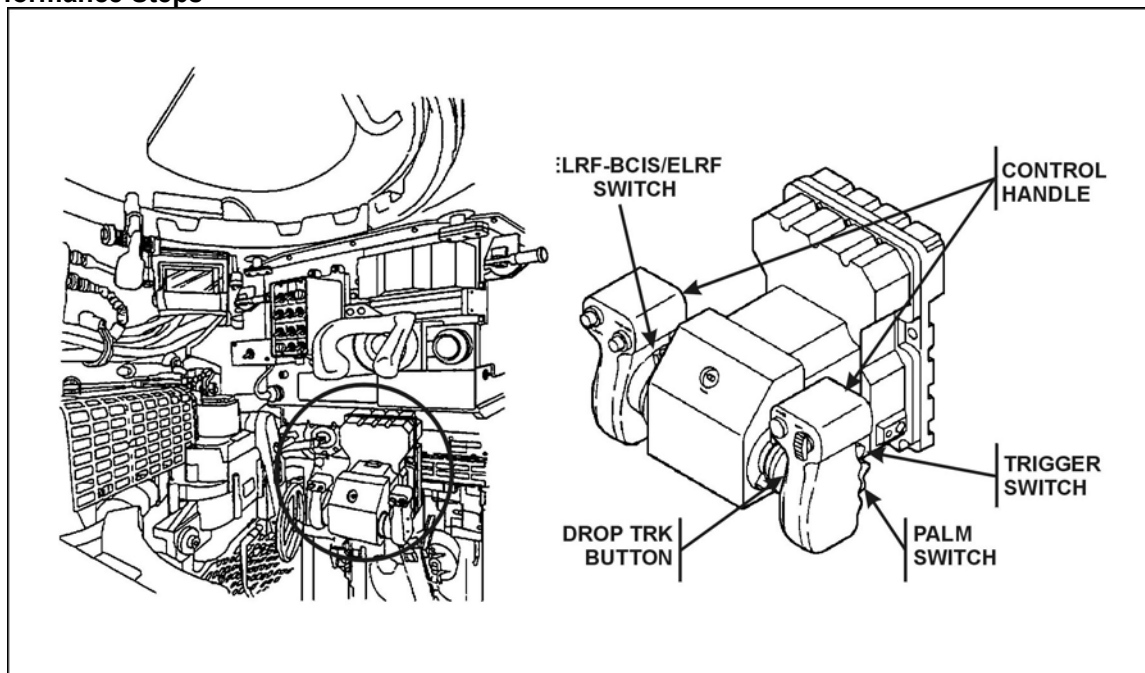

Figure 3. Gunners hand station.
- e. Squeeze and hold the palm switches on the gunner's hand station (GHS)(Figure 3).
- (1) Press and release the HI/LO MAG button located on the GHS.
- (2) Observe that the sight picture has changed to the NFOV.
- i. Acquire the range to the target (refer to Figure 3).
- (1) Push forward or pull backward on the Battlefield Combat Identification System (BCIS)/Eyesafe Laser Range Finder (ELRF) to lase the target.
- (2) Check for multiple returns.
- (3) Manually index the range to the target if the ELRF is not functioning.